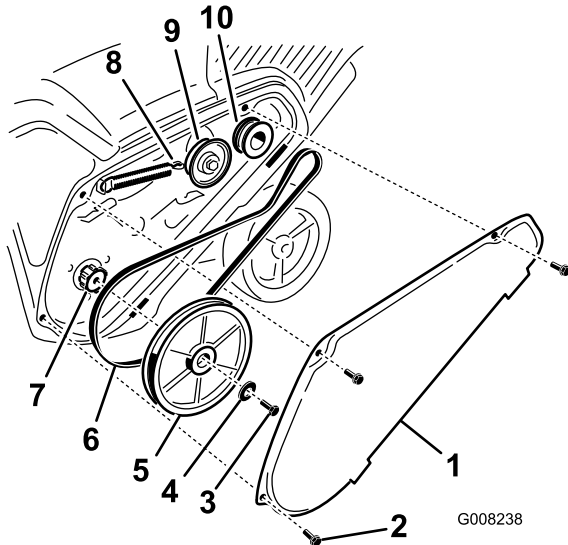

Figure 27
Note: Route the new drive belt first around the engine pulley, then the idler pulley, and finally around the loose rotor pulley positioned just above the rotor shaft (Figure 27).
6. Install the rotor pulley onto the rotor shaft (Figure 27).
7. Install the curved washer and the rotor pulley bolt and tighten them securely (Figure 27).
2. Unhook the brake spring from the idler arm to release the belt tension (Figure 27).
3. Remove the screw and curved washer that holds the rotor pulley (Figure 27).
4. Remove the rotor pulley and the drive belt (Figure 27).